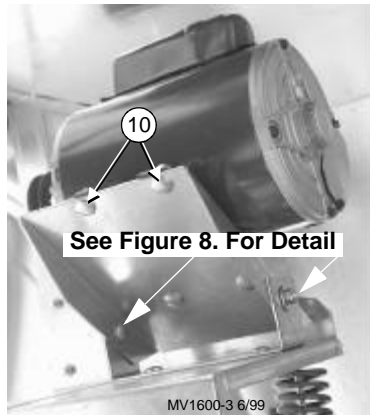

Figure 6. Pivot Plate Mounting Bolts
5. Secure the Pivot Plate Mounting Bracket, **see Figure 6**, on the new U-Motor Mount Bracket using the two carriage bolts, and Lock Nuts provided.
8. Mount the Motor to the Pivot Motor Mount Plate by using the supplied carriage bolt with the heads coming up from the bottom and flat washer, lock washer, and 5/16"-18 hex nut on top, **see Figure 6**.